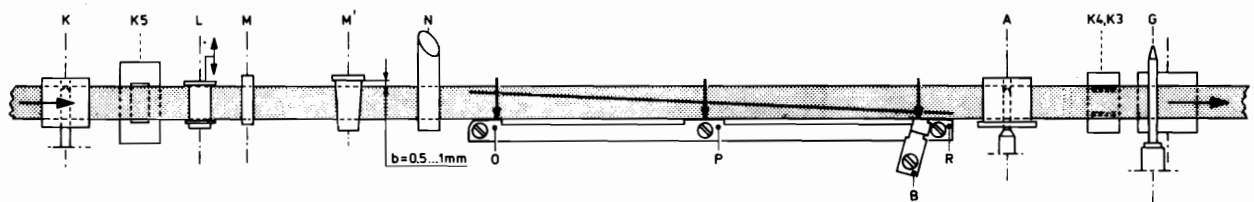

Fig. III-15
- The drum ruler with the cams O, P and R (Fig. III-15) has been carefully adjusted in the factory. Outside the factory, this ruler can be neither adjusted nor checked. If it turns out that after repeated tape path adjustments the apparatus does not work properly (compatibility), the lower drum must be exchanged. This is also true when the position of the ruler clearly deviates from the wear pattern on the lower drum or when the locking point of the mounting screws of the ruler is broken.
- Demount the plastic tape guide B on the lower drum (Fig. III-15).